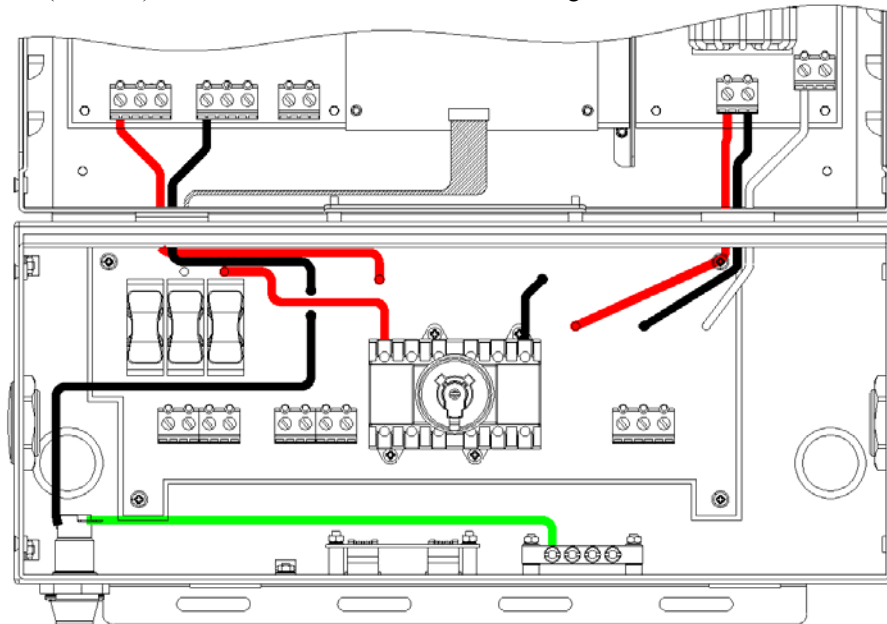

Fig 2.3.10 PVI 3000 has three (3) PV string fuses (all other models have four (4))
The PVI 3000 is shipped with three (3) 15A, 600Vdc PV string fuses as shown in the Figure 2.3.10, below; therefore, the fourth pair of terminals (from left) shall not be used to connect to a PV string.